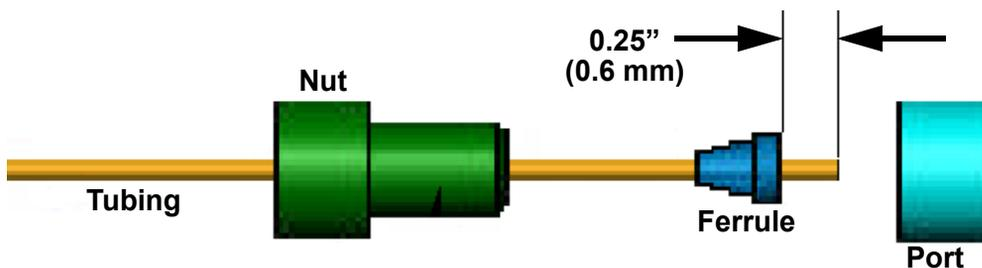

Figure 10-23. Tubing Ferrule Installation.
- The tubing is connected to the valve and pressure transducer using a reverse compression nut and ferrule (Figure 10-23). The knurled fittings only need to be hand tightened. Use of tools or excessive force will result in damage to the fittings or component ports.
- Slide the nut and ferrule onto the tubing as shown (Figure 10-23) exposing about one quarter inch (.063 mm) of tubing through the ferrule. Insert and hold the tubing snugly against the inside of the component port and tighten the nut over the ferrule to secure the tubing.
Make sure that the nut and ferrule are oriented as shown in Figure 10-23.
Make sure that the nut and ferrule are oriented on the tubing as shown in Figure 10-23.